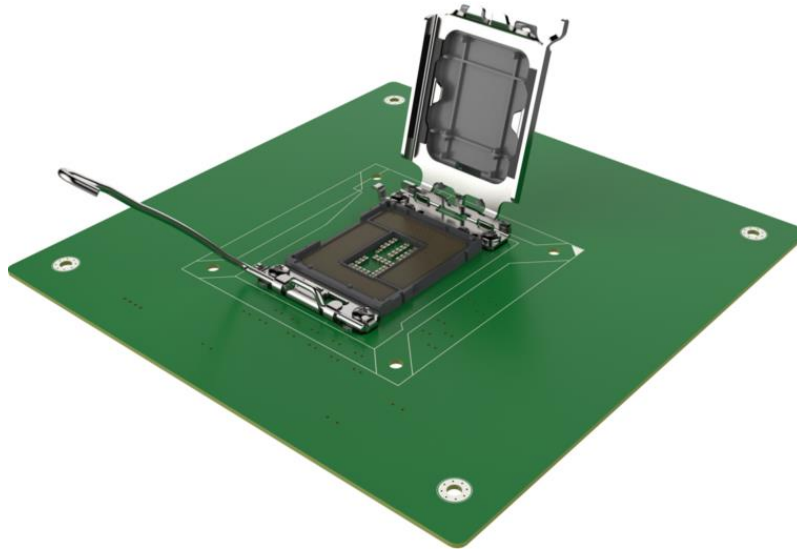

Figure 4-2: Remove Protective Cover
Step 2: Open the socket. See **Figure 4-2**.